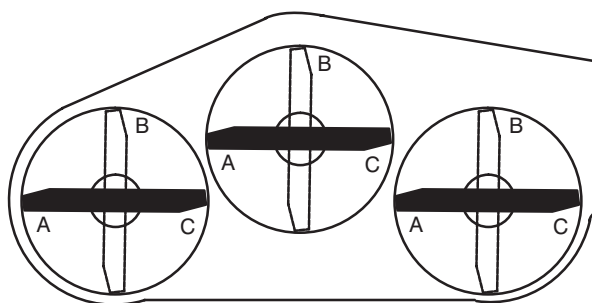
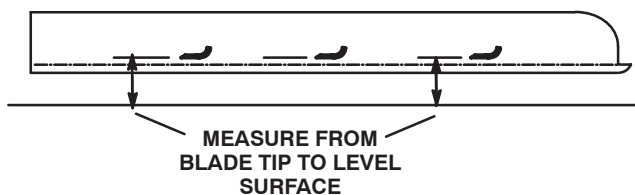

Figure 29
Figure 30
5. Position all 3 blades in the “A” position (Fig. 29) and measure from the level surface to the bottom of the tip end of each blade (Fig. 30).
6. Note the measurement attained at “A”, rotate the blades to the “B” position (Fig. 29), measure the distance of all of the blades to the level surface, and note the dimensions (Fig. 30).
7. Rotate the blades to the “C” position, measure, and note the distance measured (Fig. 29 and 30).